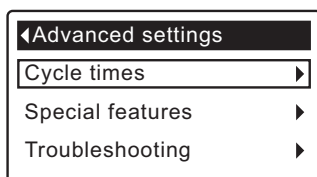

FIG. 70
3. Press the SELECT (O) button to display the Advanced settings menu (See Figure 70).